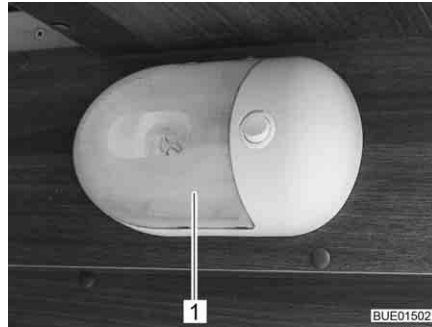

Fig. 267 Surface mounted light
- Carefully push the transparent cover (Fig. 267, 1) together from both sides, pull it lightly from the switch and pull it off forwards.